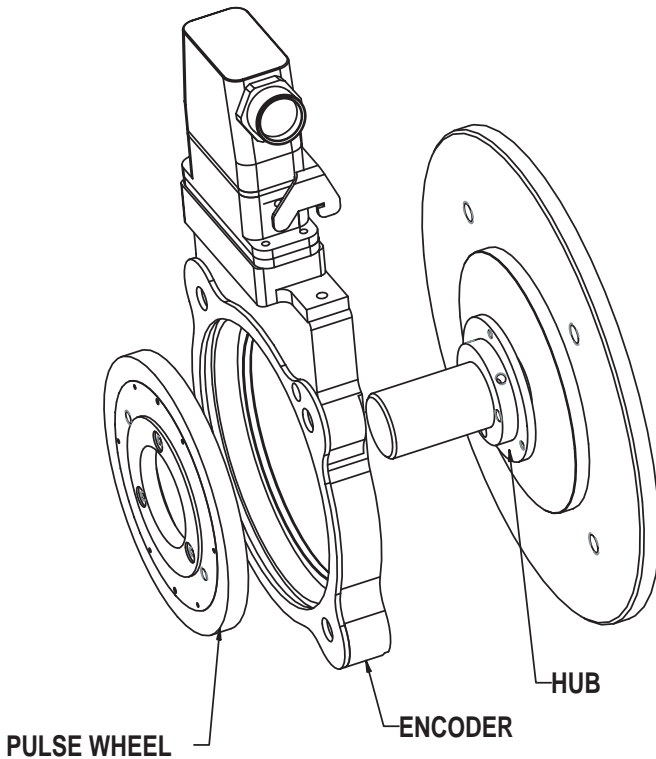
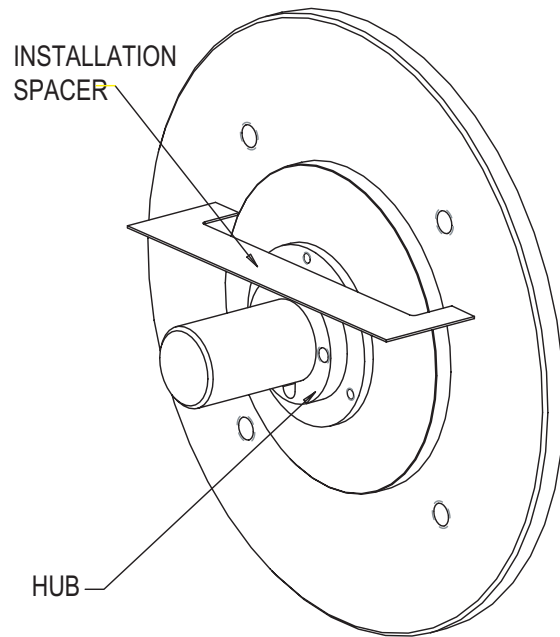

Figure 3: Typical Motor Mounting
Figure 3a: Hub alignment with installation spacer
1) Install Hub: Position the hub so that the large flange faces the motor. Slide the hub on the motor shaft until it makes contact with the machined step. See Figure 3. If there is not a machined step, see Figure 3a to illustrate how to use the installation spacer to align the hub. The hub is now properly aligned. Apply Loctite 222 to the two 10-32 UNC set screws. Making sure the hub is firmly seated against the step or installation spacer, use a 3/32 inch hex wrench to tighten the screws to a nominal 25 in-lbs.